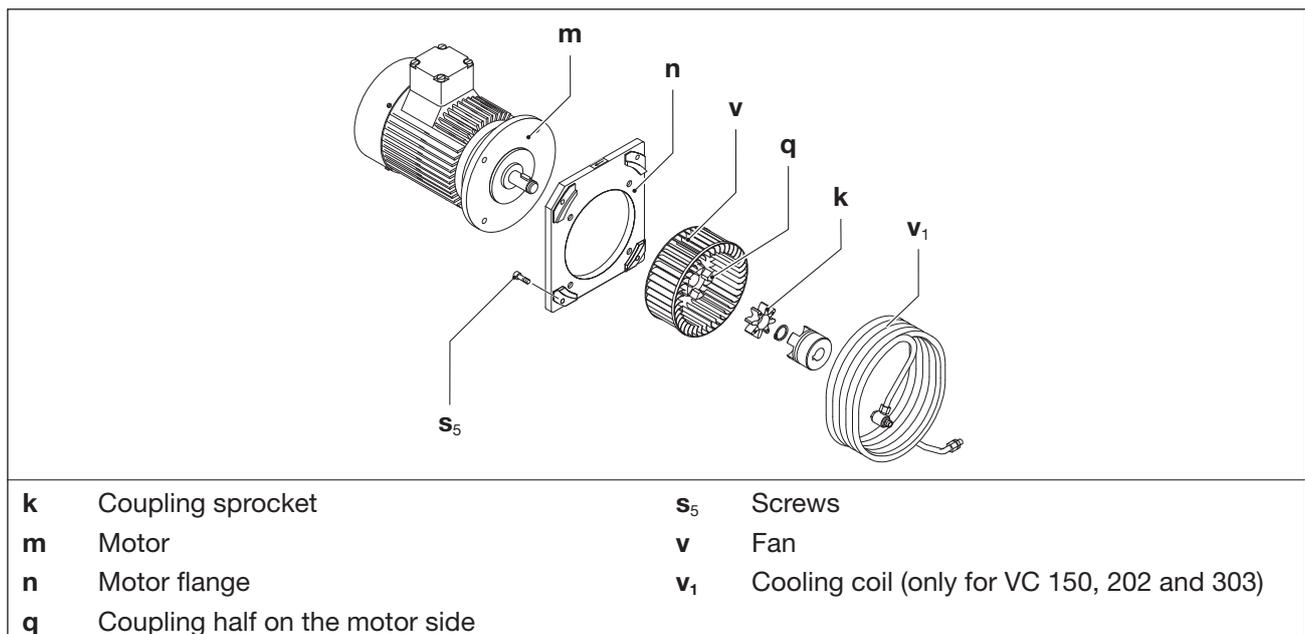

Fig. 9 Coupling
The coupling sprocket (Fig. 9/k) is subject to wear and must be checked regularly (at least 1 x a year). While doing this the cooling coil (Fig. 9/v₁) must be cleaned each time by blowing out.
- c) Undo the screws (Fig. 9/s₅) on the motor flange (Fig. 9/n).
- d) Remove the motor axially with the coupling half (Fig. 9/q₁) on the motor side from the motor flange (Fig. 9/n) and suspend with the lifting gear.
- e) Check the sprocket (Fig. 9/k) for damage and replace if necessary.
- f) The fan (Fig. 9/v) should also be checked for damage from time to time and replaced if necessary.
- h) Push on the sprocket and motor with coupling half on the motor side again axially and fasten it with the screws (Fig. 9/s₅) to the motor flange (Fig. 9/n). Tightening torque: M10=50 Nm; M12=90 Nm